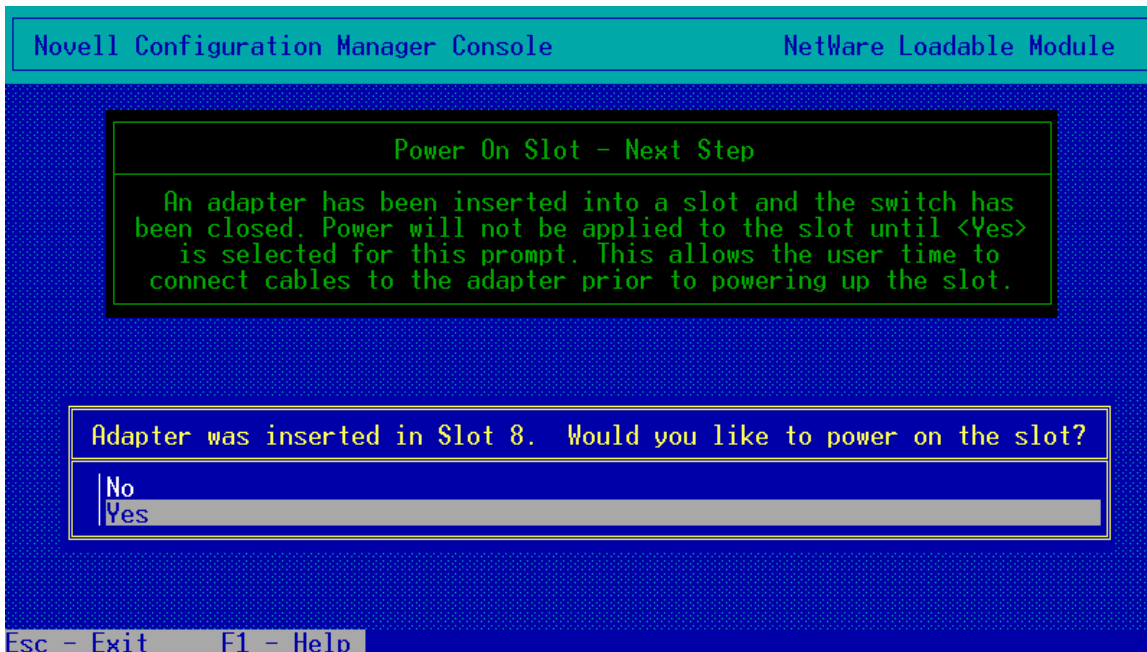

Figure 4. Novell Configuration Manager – Hot-Plugged board detected.
- **Hot replacement of boards** – This allows you to replace a failed board with an identical board. This action applies power to and configures the slot, see Figure 4.